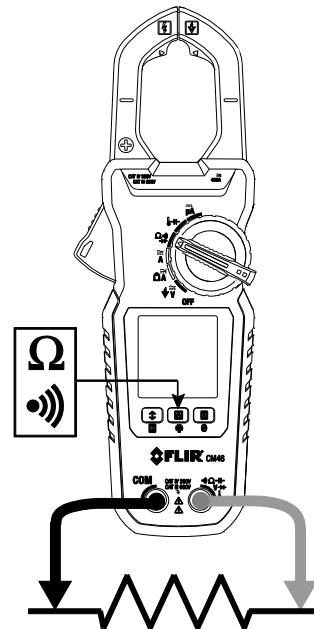

Figure 5-6 Resistance/Continuity Measurements
4. Touch the tips of the probe across the circuit or component under test (see Fig. 5-6).
2. Insert the black probe lead into the negative COM terminal and the red probe lead into the positive Ω terminal. Refer to Fig. 5-6 for connection example.